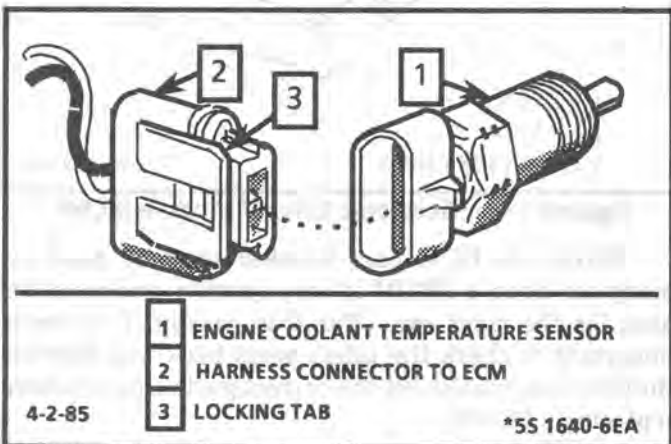

Figure C1-2 - Engine Coolant Temperature Sensor
**Engine Coolant Temperature Sensor (Figure C1-2)**